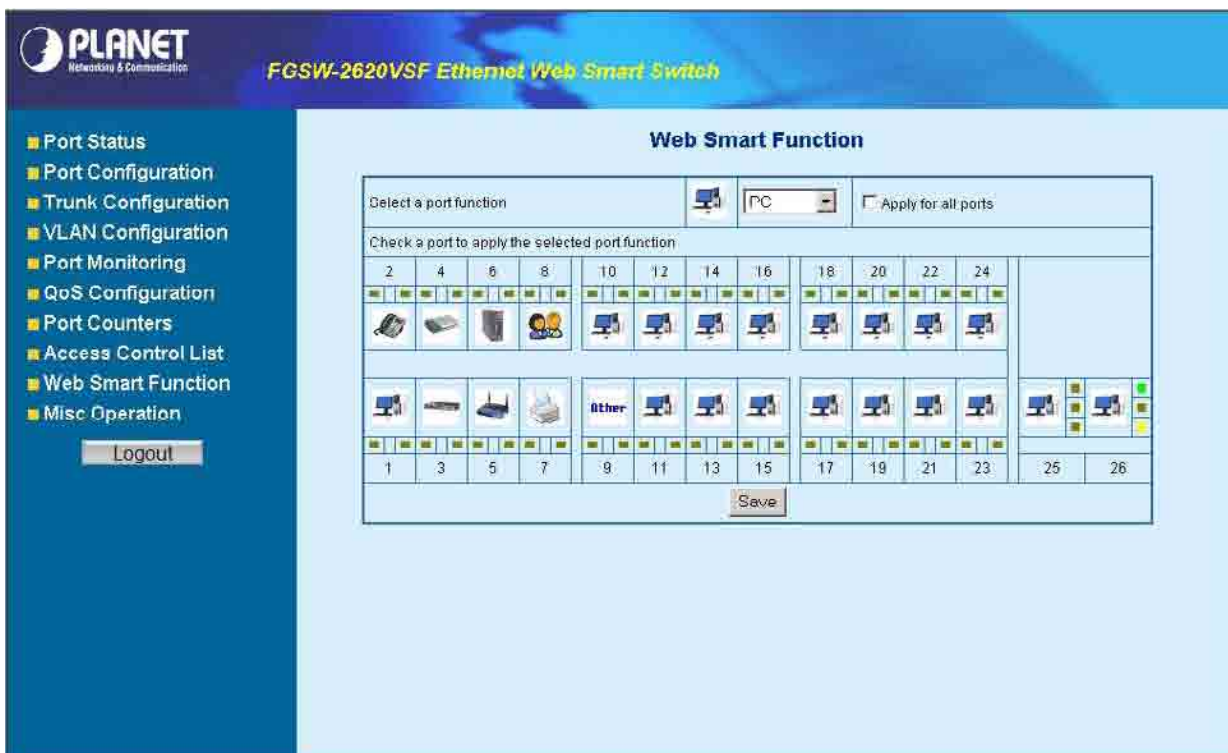

Figure 4-65 Web Smart Function Web Page screen
1. Choose a device from options of Select a port function, the screen in Figure 4-65 appears.